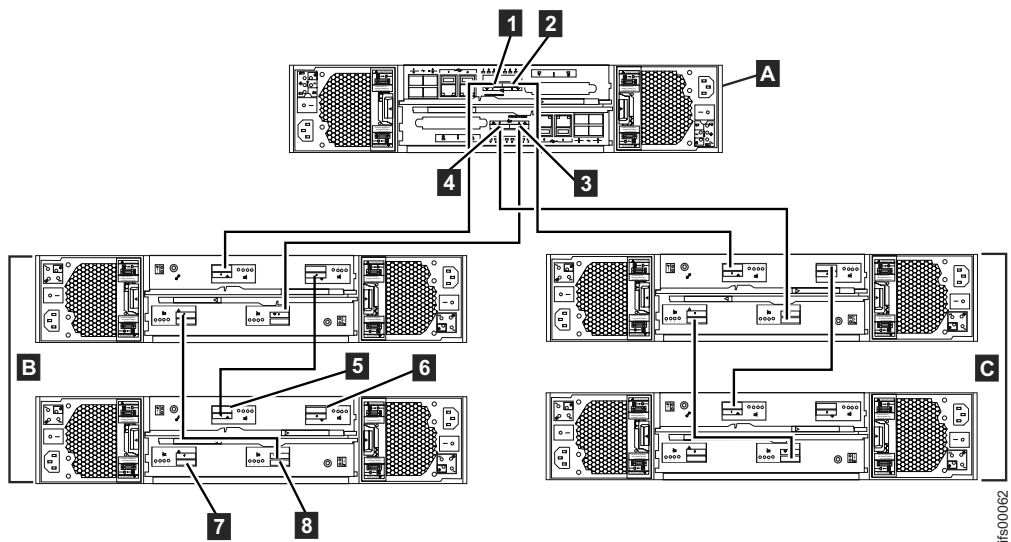

Figure 44. Internal cabling connections between the control enclosure (A) and the expansion enclosures (B & C).
The following table refers to Figure 44 on page 54.
1. Review How to connect SAS cables to expansion units and the figures before you attach the SAS cables. The following table refers to Figure 44.